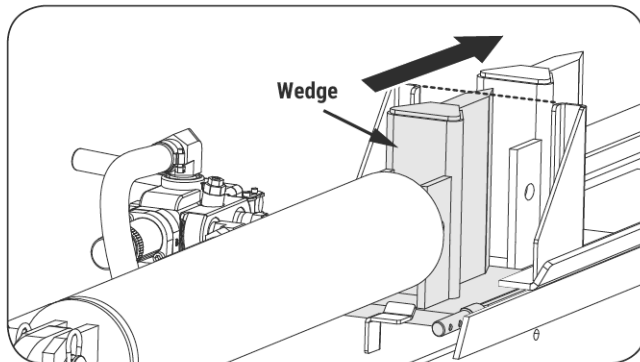

Figure 1b
2. Push the wedge forward until the wedge completely crosses the log stripper. (See **Figure 1b.**)